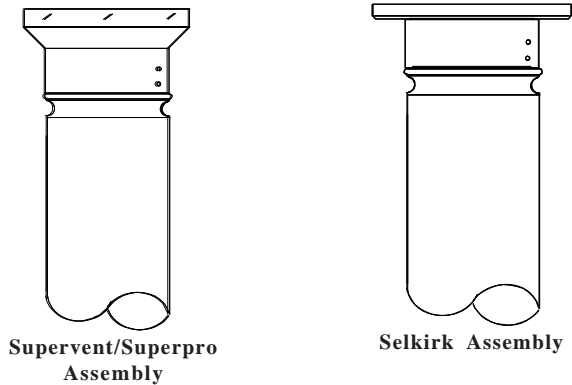
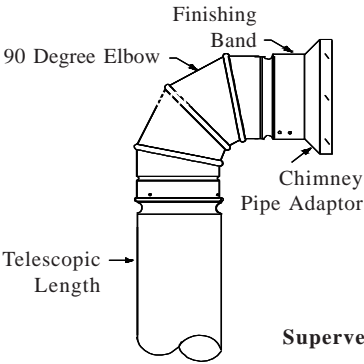

Figure 1B
Figure 2A
Step 3. Wrap the Finishing Band over the crimped end of the DSP and the Chimney Pipe Adaptor. Ensure it is over the bead and snug to the beveled edge or to the Basecap. Mark this position using the 2 pre-punched holes in the Finishing Band as a template. Pre-drill with a 3/32 metal drill bit and secure the Finishing Band with the 2 supplied black sheet metal screws. Figure 1B shows when it is all assembled. Step 4. On a Through-The-Wall Installation with a 90 degree elbow, it may be necessary to cut the Chimney Pipe Adaptor and /or the Finishing Band to the required width to be covered. Ensure that the Finishing Band overlaps the crimped end of the DSP and overlaps the bead snug to the beveled edge or to the Basecap as per Figure 2A & 2B.